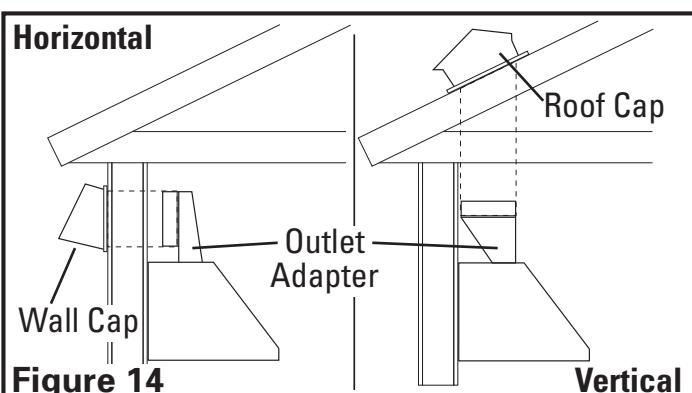

Figure 14
- Determine the type of ducting you will require (**Figure 14**).
NOTE: When the duct termination is similar to that shown in figure 14 (passing through the wall to which the hood is mounted) the installation requires special consideration. Depending upon where the wall studs are located, it may be necessary to cut one or more of the wall studs and install a header and footer to transfer the load to the adjacent studs. Additional studs may need to be framed into the opening to attach dry wall or secure the hood. If this is your situation Air King recommends that you hire a professional and comply with all applicable codes.